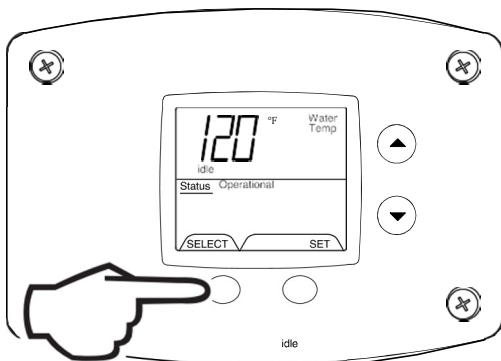

Fig. 30
2. Pressing 'Select' button will change display to next mode (Fig. 30).